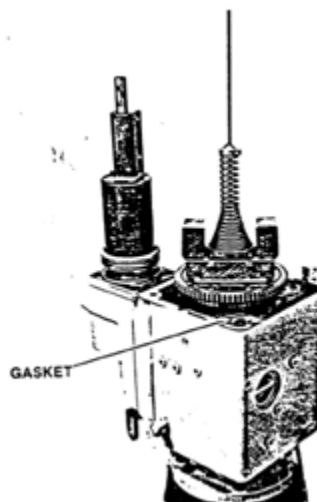

Figure 5-37. Power Case Assembly
19. Put small gasket in top of power case (Figure 5-37).